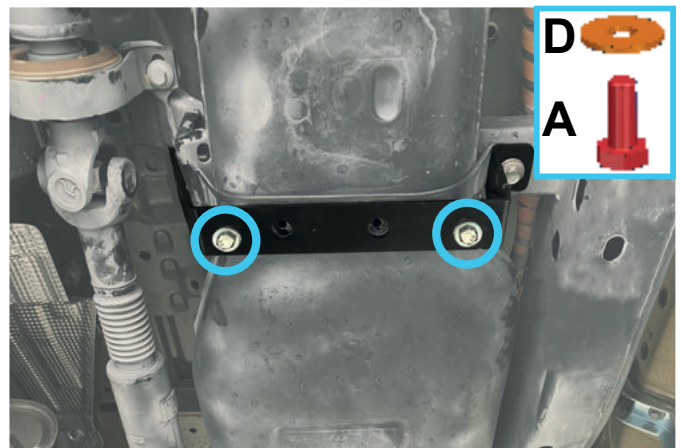

Fig. 8
6. Loosely install supplied M10x25 bolts (item A) and M10 washers (item D) to the previously installed front mounting bracket (item 2) as shown in fig.8.